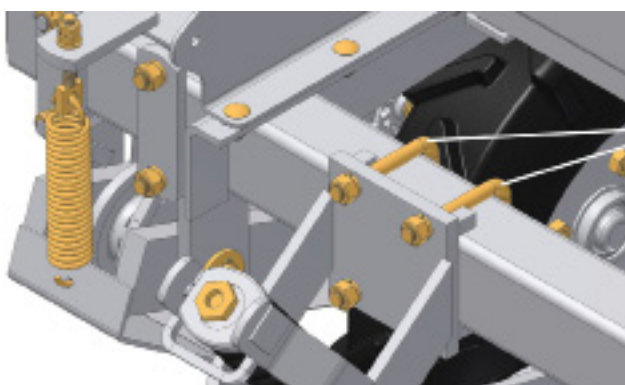

fig.04
- 4 - Loose the fixing bolts of the furrower line kit (B) (fig. 04), letting it loose in relation the chassis frame. Move until the desired spacing.